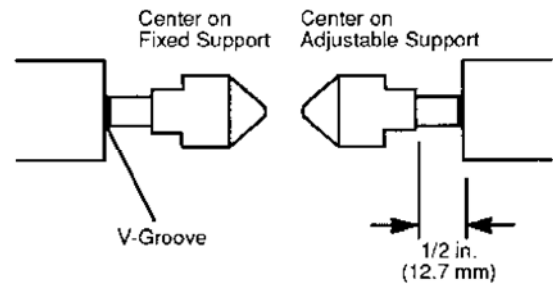

FIG. 24
1. Check that both centers are screwed into their mounting blocks until the V-groove just shows. See FIG. 24. This will allow you to screw the center **out** by as much as 1/4" [6.5 mm] or **in** by as much as 1/2" [12.7 mm] for final positioning.